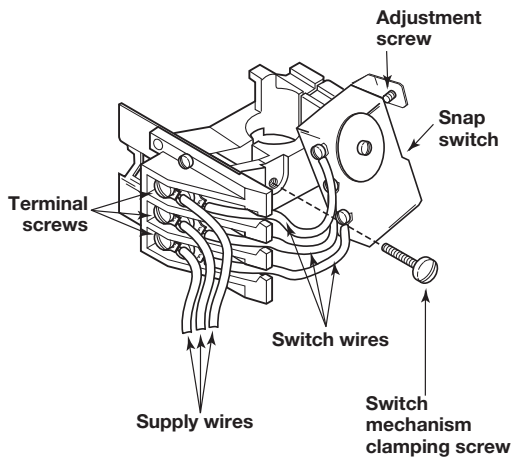

Figure 17
8. Control wires must not touch or interfere with the switch or the mechanism wires. Refer to Figures 17 and 18 on page 19 for wiring with two different terminal block configurations.